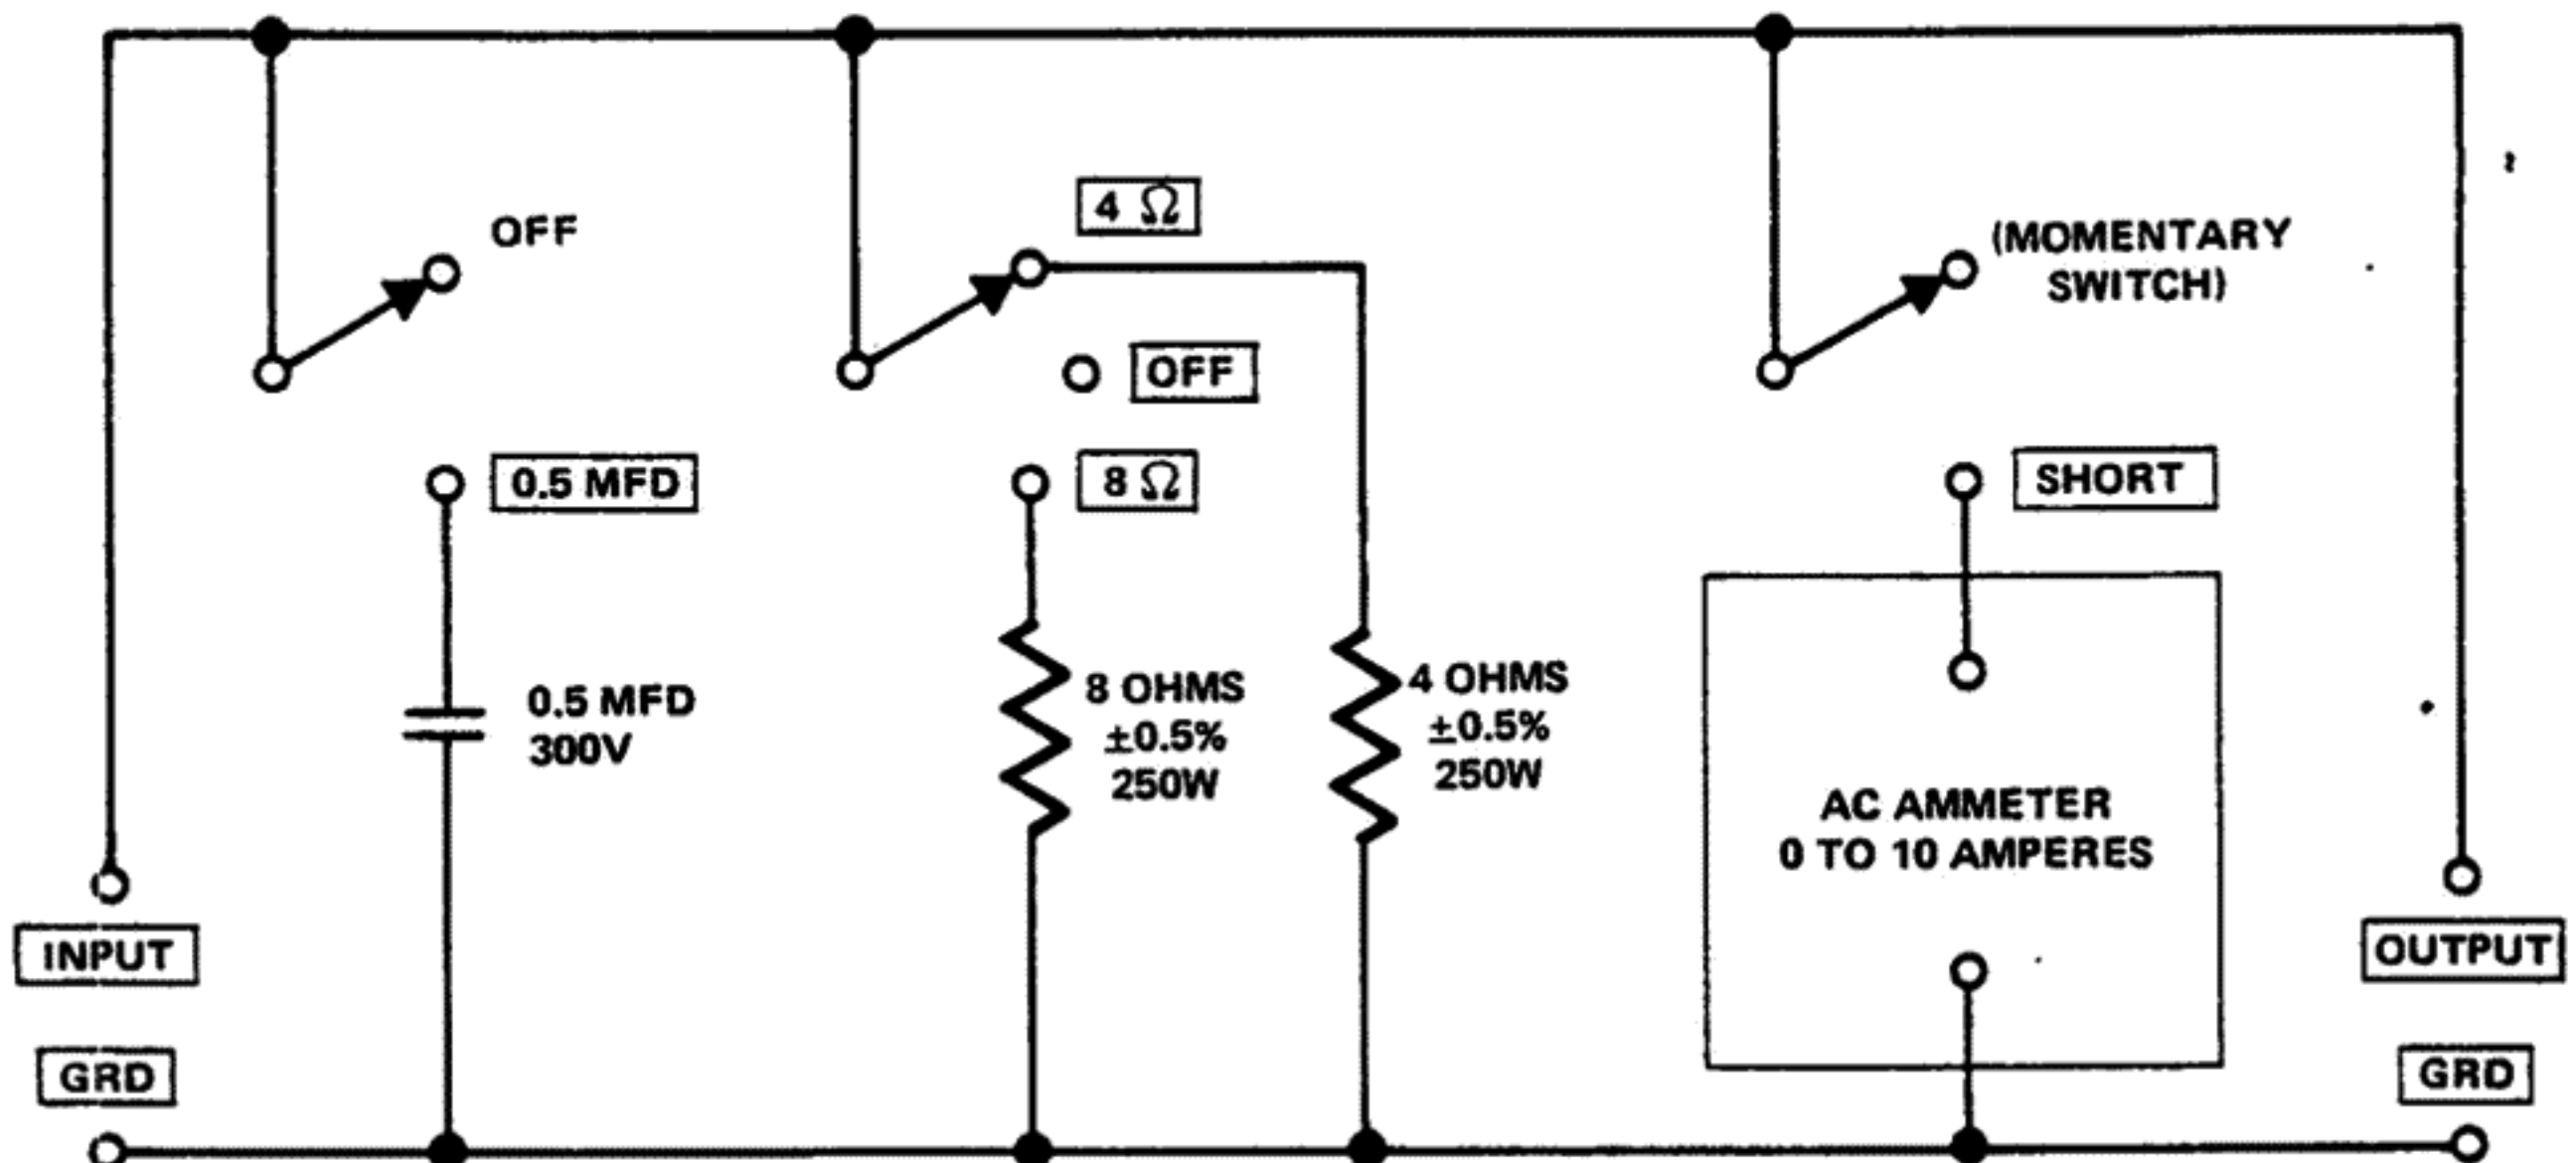

Figure 5. Amplifier Output Load Box Simplified Schematic
1. Set up the test equipment as shown in Figure 5, with the instrument controls set in the following positions: